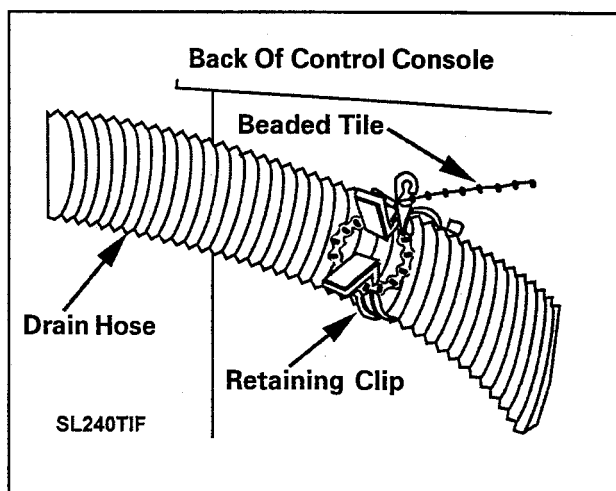

Figure 1-5
7. If the standpipe is less than 36" high, pull the drain hose up vertically and snap the hose into the retaining clip positioned on the upper, rear cabinet wall (**Figure 1-5**).